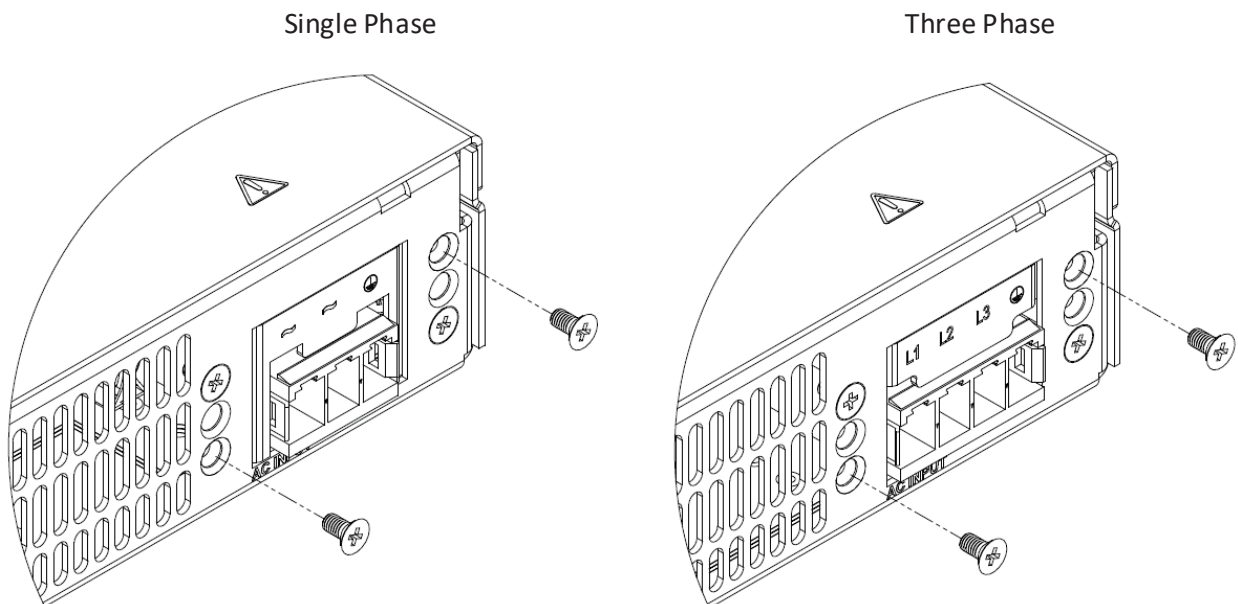

Figure 4-25: Unscrew the Rear Panel Screws
8. To fix the strain relief release assembly, unscrew two of the rear panel screws as shown in Figure 4-25. Do not reuse these screws.